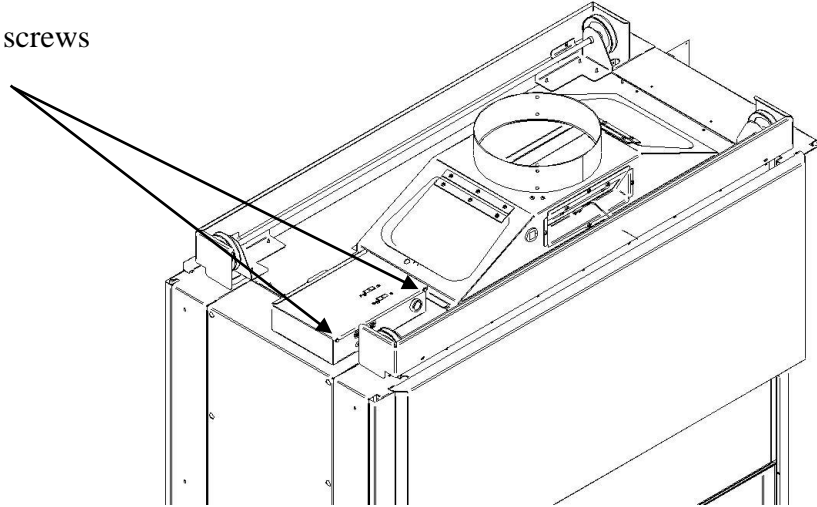

Figure 5-1
1. Remove the two screws that secure the top of the box using a 5/16" wrench or socket, shown in Figure 5-1.